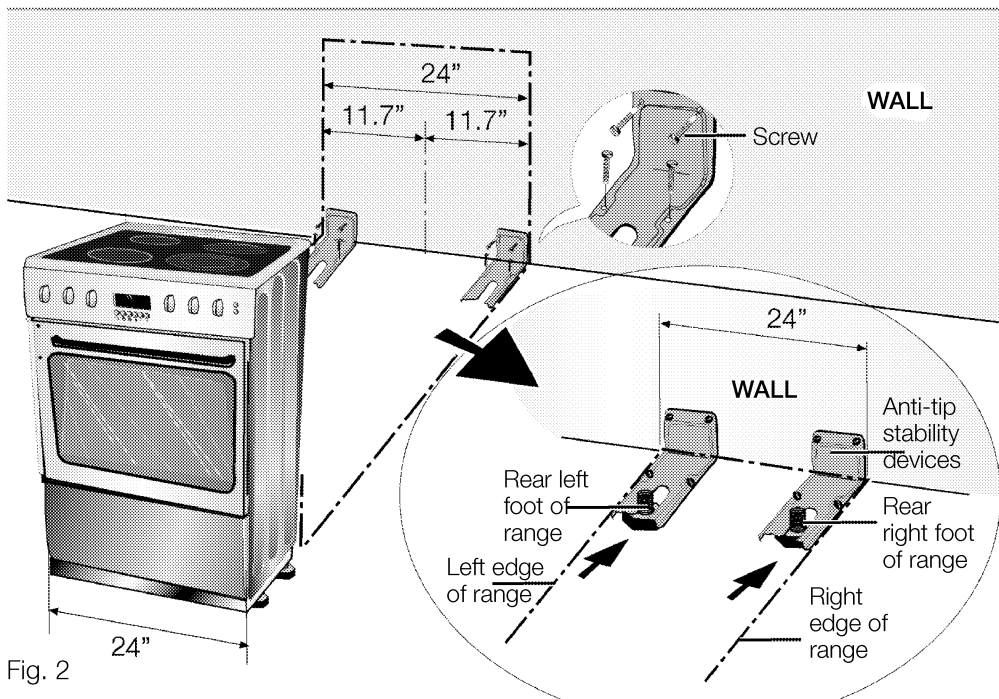

Fig. 2
- Engage the range to the anti-tip bracket by sliding range so that the rear foot of range into the bracket as shown in figures 2 and 3.